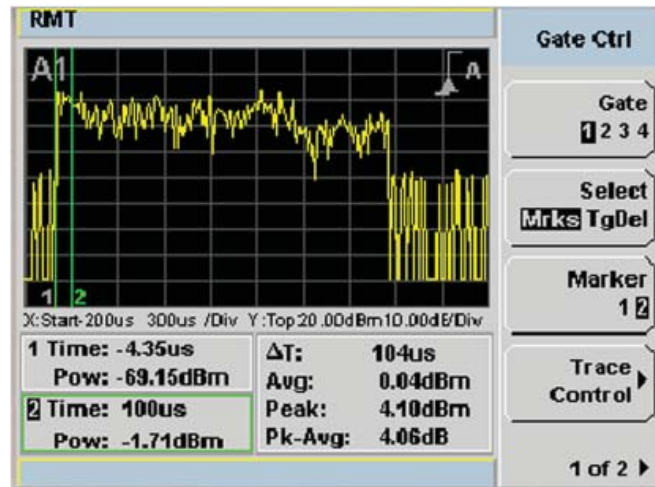

Figure 11. Preamble duration at 104 μ s and average power is measured at 0.04 dBm, which is close to 0 dBm of input power (see ESG setup on Page 10)
| 1. Measure Preamble at 104 μ s duration (see Figure 11). | {Trace Control}, {X Start -200μ s and X Scale 300μ s}. {Gate Control}. Press [] to allocate marker 2 and [] to allocate marker 1. |
Figure 12. DL average power measures -4.52 dBm at 1.25 ms where only Burst 1 is ON. Referring to Figure 11, the Preamble (P) has a 3 dB boost above the DL or nominal level of the rest of the signals. At times, bursts can be boosted above 0 dB as well.